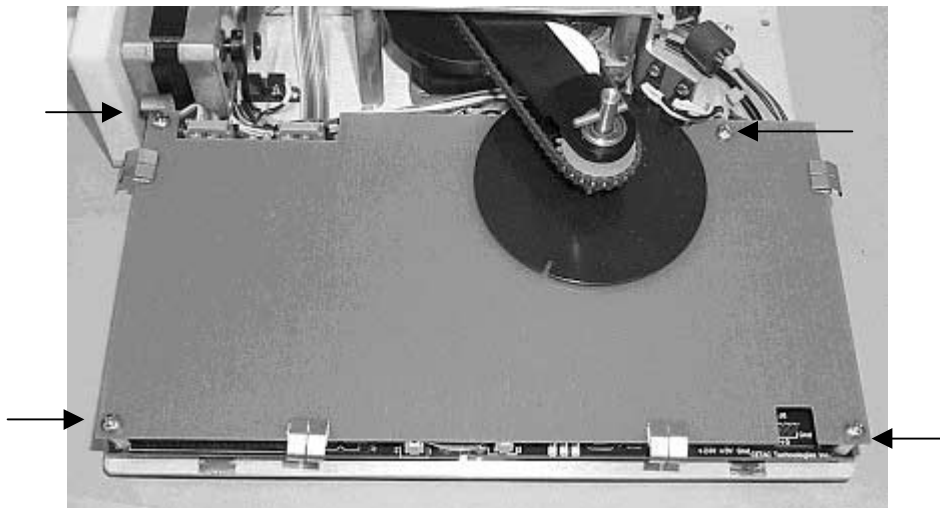

Figure 1-8. View of the inner shield in the ASX-100 Auto-Sampler.
7. Next, the inner shield needs to be removed by removing the four corner screws. See Figure 1-8.